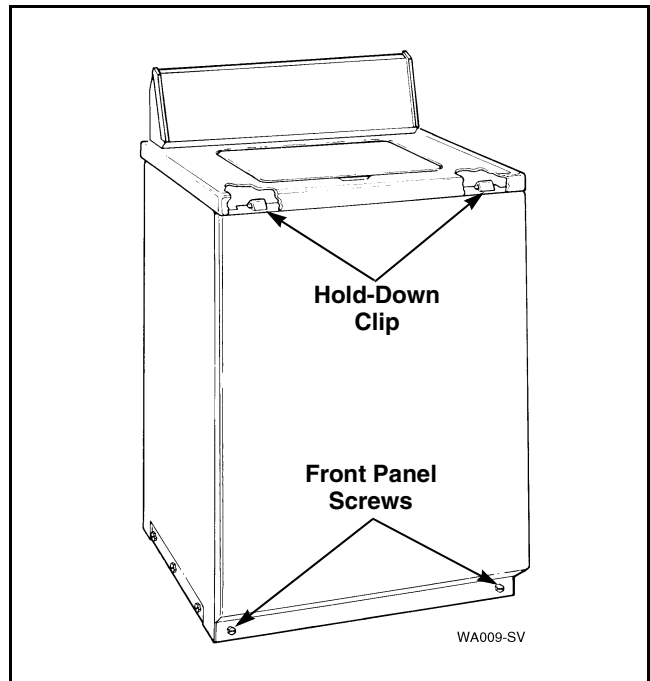

Figure 16
Refer to *Figure 16*.
- Remove two screws from bottom edge of front panel. Refer to *Figure 16*.
- Pull bottom of panel away from washer until hold-down clips (located on top flange of panel) disengage from slots in cabinet top. Refer to *Figure 16*.